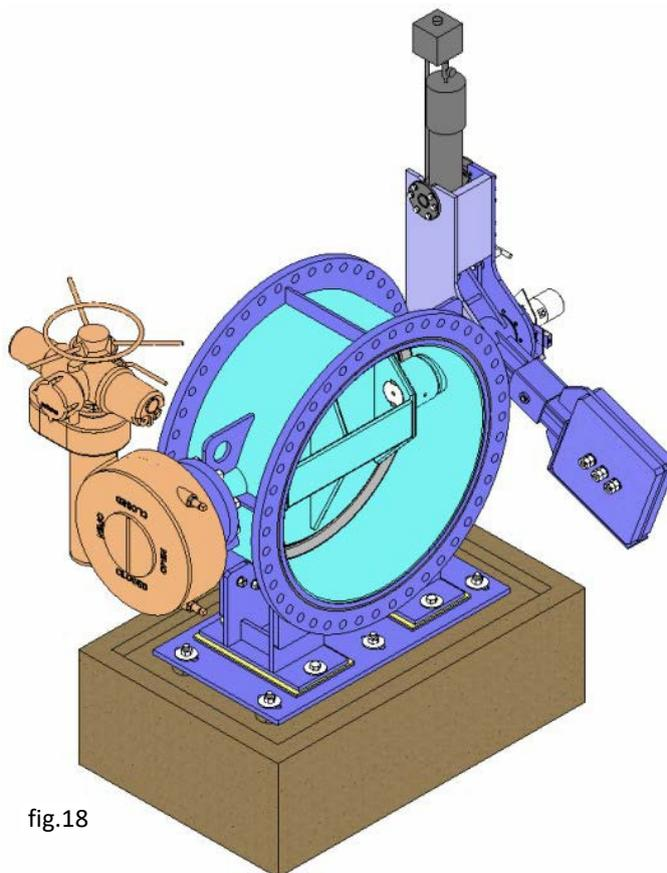

fig.18
A. COMBINATION OF BUTTERFLY AND RETENTION VALVE (fig. 18):